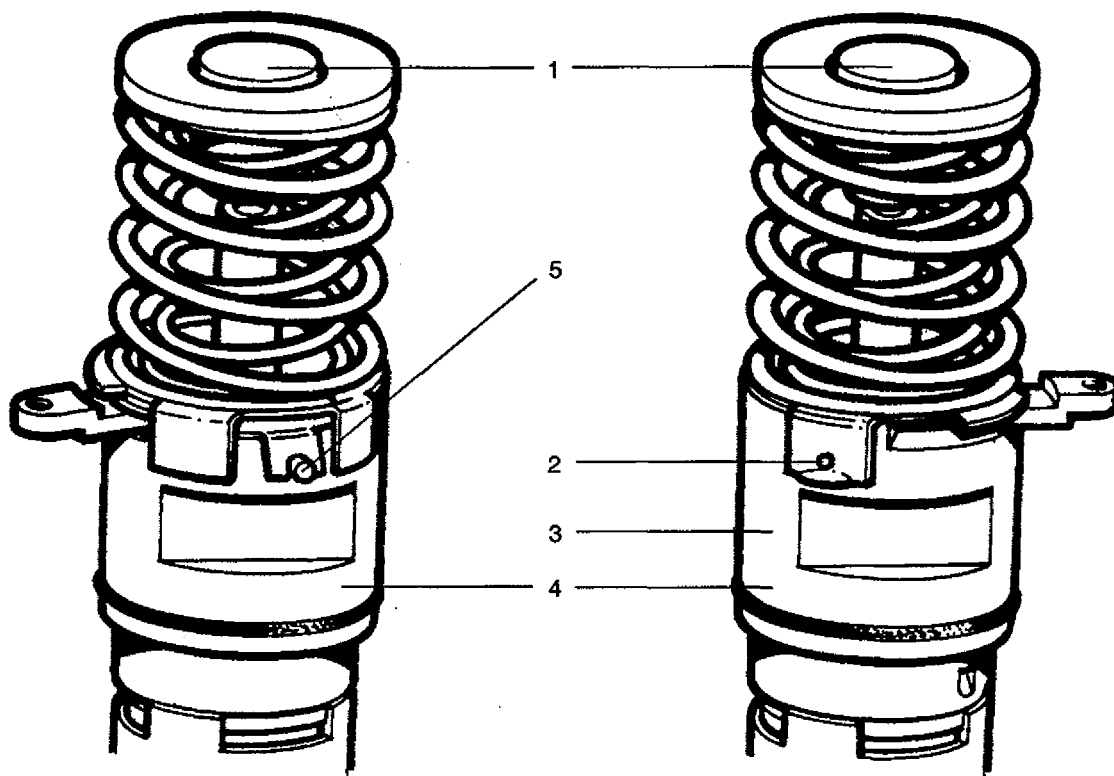

Fig. 12P
(Fig. 12P)
After testing as described in **Section P10 to P11** remove the injector from the fuel feed adaptor and injector clamp (**Fig. 10P**), and assemble the spring plunger assembly (**Fig. 12P**) to the element housing, ensuring that the spring dowel (2) and timing pin (5) engage with the spring plate locating collar (3) as shown.